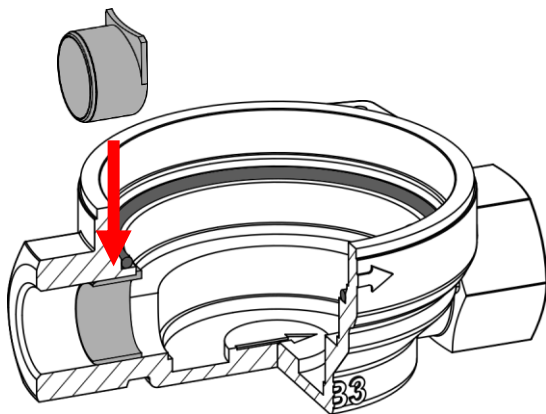

Figure 15. Installation of the fixing piece MB3
2. Insert the fixing piece into the inlet side of the EAT (Fig. 15).